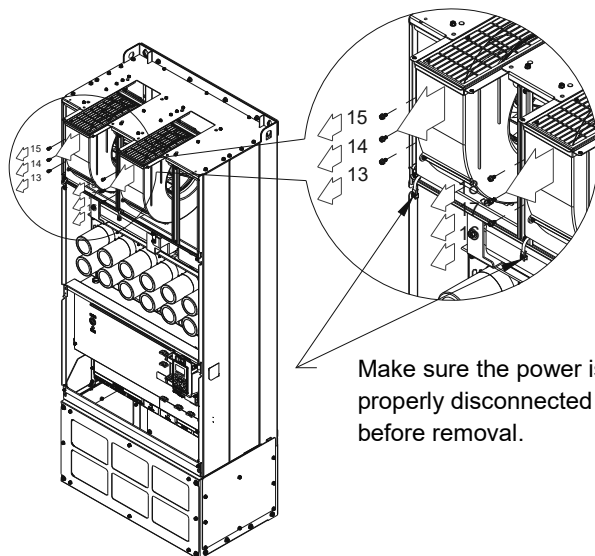

Figure 4
4. Loosen the screw 13–18 and remove the fan. Screw torque: 24–26 kg-cm / [20.8–22.6 lb-in.] / [2.4–2.5 Nm] (figure 4)